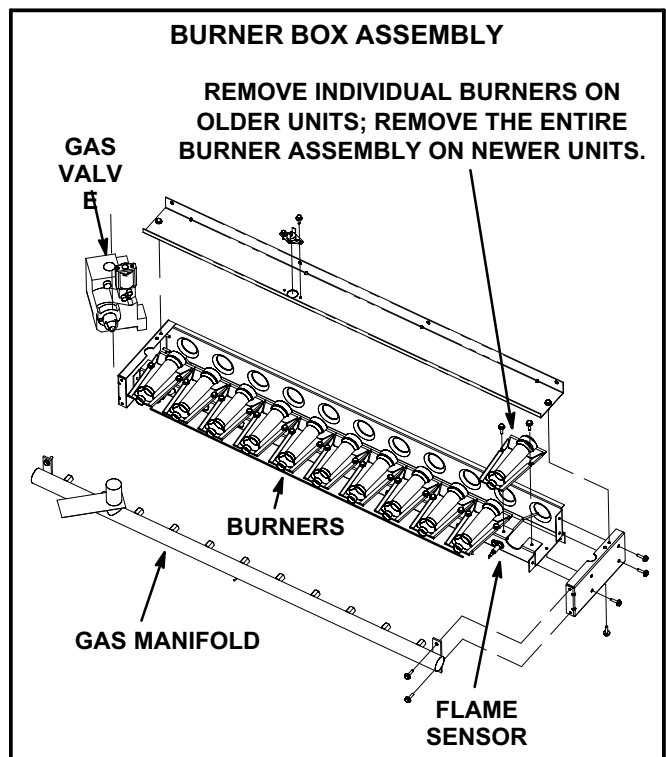

FIGURE 28
- 3- Remove screws securing burners to burner support and lift the individual burners or the entire burner assembly from the orifices. See figure 28. Clean as necessary.